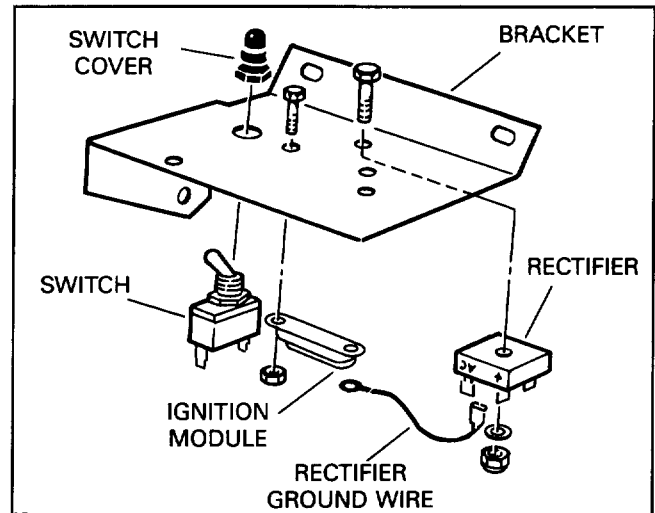

Figure 11
13. With toggle pointing in proper direction (see Fig. 11), install switch to component mounting bracket.
14. Using #10 x 0.50" lg. screws and locknuts, install ignition module together with rectifier ground wire to component mounting bracket (Fig. 11).
15. Using #10 x 1.00" lg. screw, washer and locknut, install rectifier to component mounting bracket. Negative terminal of rectifier should be adjacent to the ignition module (Fig. 11).
16. Connect remaining terminal on rectifier ground wire to negative (-) rectifier terminal (Fig. 11).